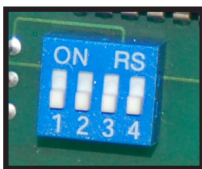

Figure 3: Dipswitches
- 2. Dip Switches (1-4) - See Figure 3.